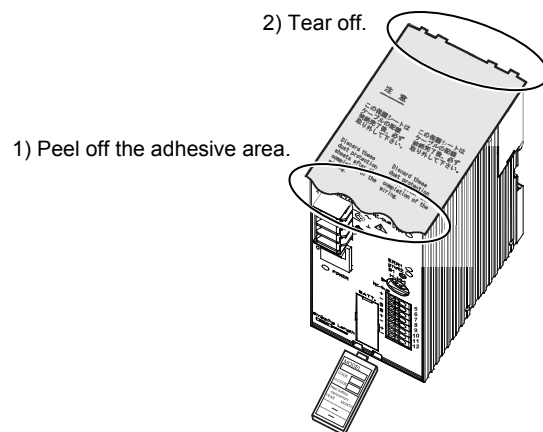

Figure 10. Protective sheet
- Peel off the protective sheet on the top surface of the product before turning ON the power. (See Figs. 10 and 12.)